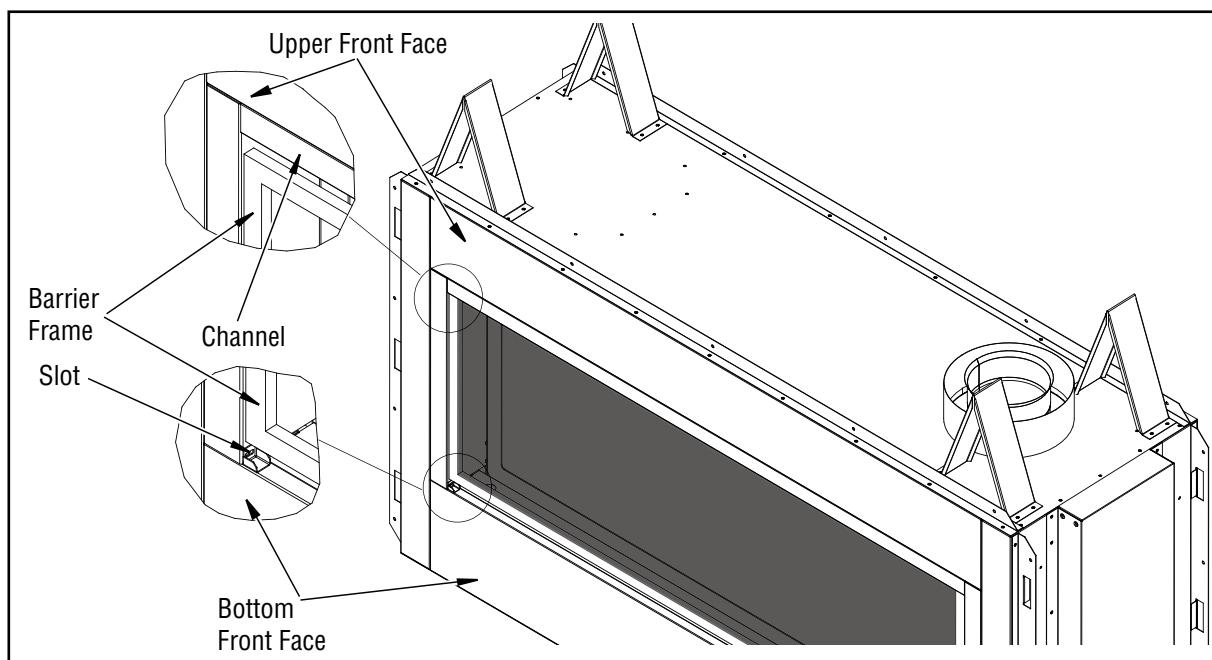

Figure 37 - Reinstalling barrier
1. Hold the barrier in front of the glass door and slide it up into the channel underneath the upper front face (see **Figure 37**).
2. Slide the barrier bottom down into the slots below the glass door, securing it in place (see **Figure 37**).